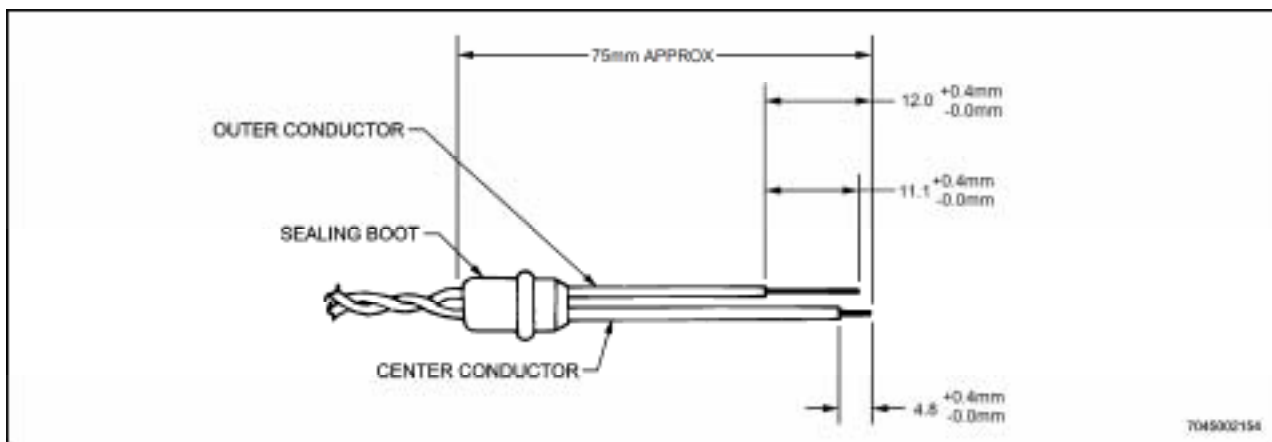

Figure 12-48 Stripping Dimensions and Sealing Boot Before Crimping the Contact
- a. Install the sealing boot onto the untwisted wire prior to stripping the wires. (See Figure 12-48.)
- b. Strip the wires to the dimensions indicated. (See Figure 12-48.) All cuts are to be square and sharp. Do not nick the conductors when stripping the insulation.
- c. Fold the longer stripped wire to a 5.5mm dimension. (See Figure 12-48.)